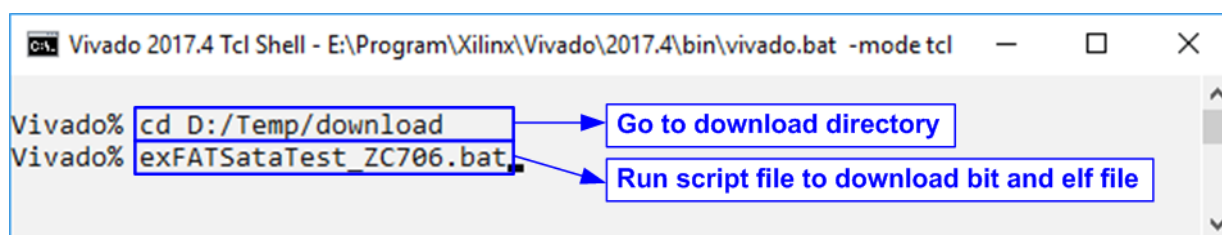

Figure 2-4 Command script for download demo file to ZC706 on Vivado TCL Shell
- 7) Open Vivado TCL shell and change directory to download or directory that batch file is located. Next, type exFATSataTest\_ZC706.bat, as shown in Figure 2-4.